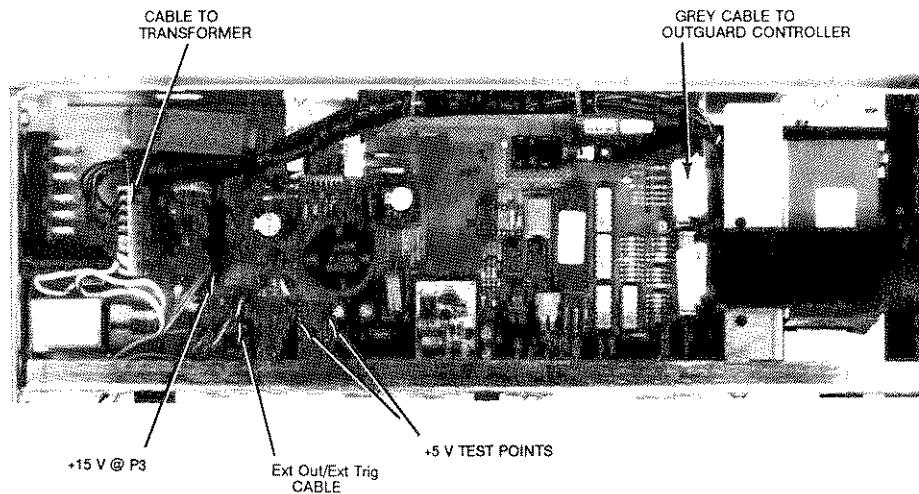

Figure 4-2. Outguard Power Supply
2. Refer to Figure 4-2 to locate the Ext Out/Ext Trig cable plugged in on the Outguard Power Supply (A6) assembly. Unplug the cable from socket P301.
2. Refer to Figure 4-2. Unplug the 2 pin cable from socket P3. The cable is connected to the fan.
3. Turn the instrument on. Use a digital multimeter to measure for approximately +15 V at socket P3, as shown in Figure 4-2.
- b. Refer to Figure 4-2 to locate the 8 pin cable that connects the Outguard Power Supply (A6) assembly to the power transformer. Unplug the cable at the power supply assembly.
2. Refer to Figure 4-2. With the test digital multimeter, check for $+5\text{ V} \pm .05\text{ V}$ at the test points shown in the figure.
6. Refer to Figure 4-2. Unplug the grey 20 pin cable connected to the Outguard Controller (A5) assembly.